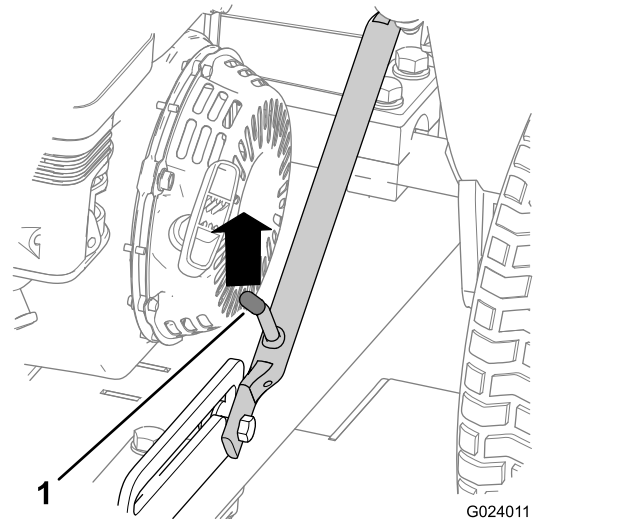

Figure 7
4. Push up on the hitch assembly until the latch lever is unlocked from the side detent (Figure 7).